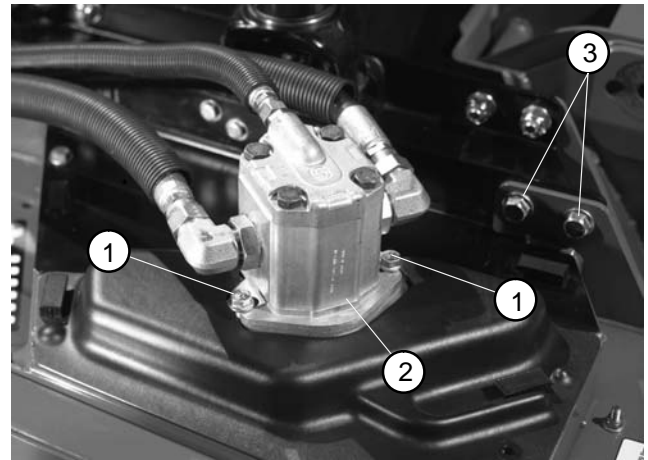

Figure 6
4. Remove eight flange head screws, flat washers, and lock nuts that secure deck mount to cutting deck (Fig. 6).
4. Install deck mount to cutting deck with eight flange head screws, flat washers, and lock nuts (Fig. 6). Tighten fasteners.